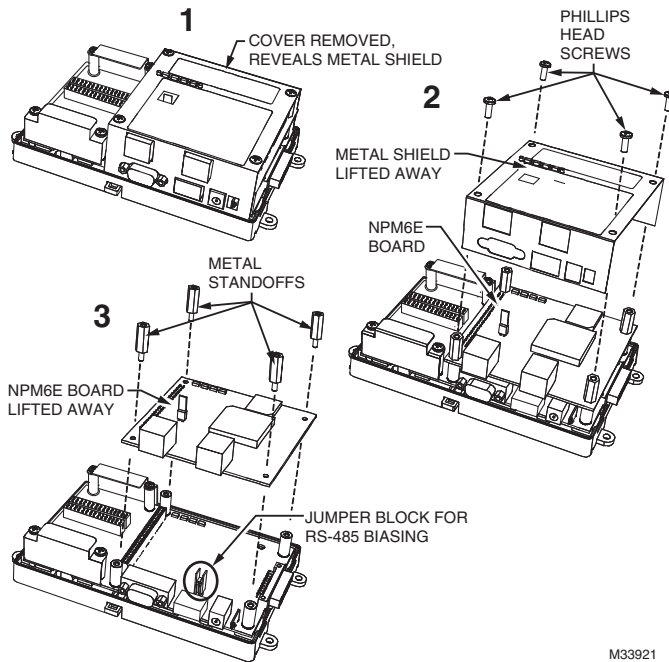

Fig. 7. Basic stages of controller disassembly.
7. Set the NPM6E board aside. Note the jumper block on the base board behind the RS-485 port (see bottom of Fig. 7).
1. Carefully replace the NPM6E board back onto the 50-pin connector, with its corner mounting holes aligned on the four lower standoffs. Press down on the connector to fully seat the NPM6E board. See Fig. 7.